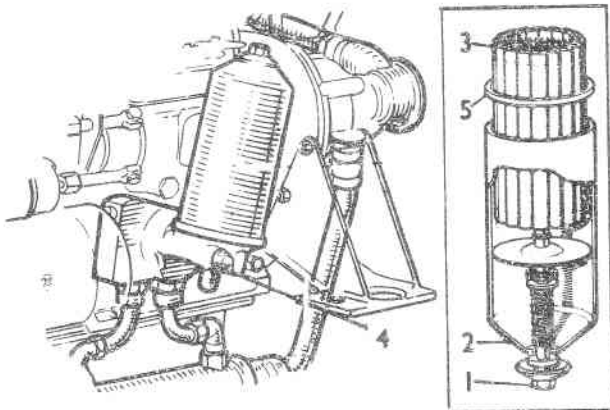

Fig. 6
C.5. TO CHANGE THE ENGINE OIL FILTER ELEMENT (FIG.6)